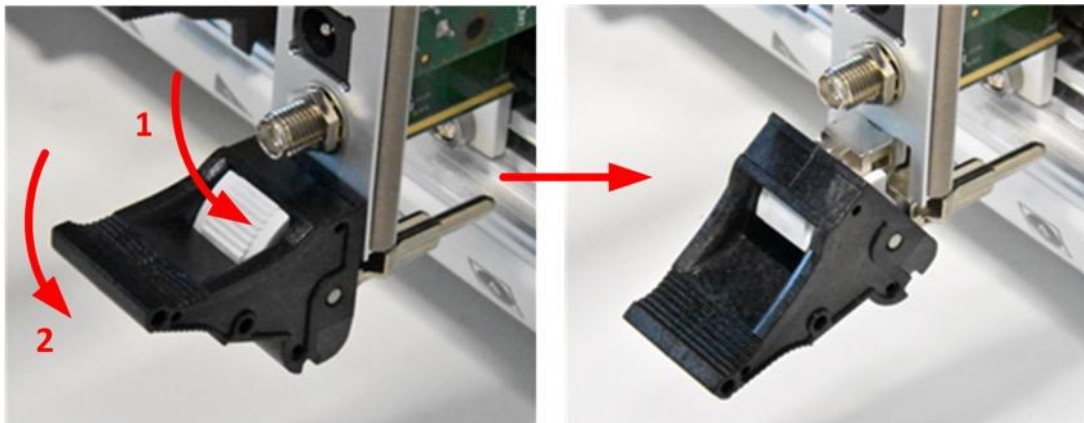

Figure 19: Push the ejector latch down prior to inserting the module
3. Push the ejector handle down (Figure 19) by pressing the grey button (step 1) on the handle and subsequently pushing the black handle (step 2) down.
- Push the ejector handle down (Figure 19) by pressing the grey button (step 1) on the handle and subsequently pushing the black handle (step 2) down.